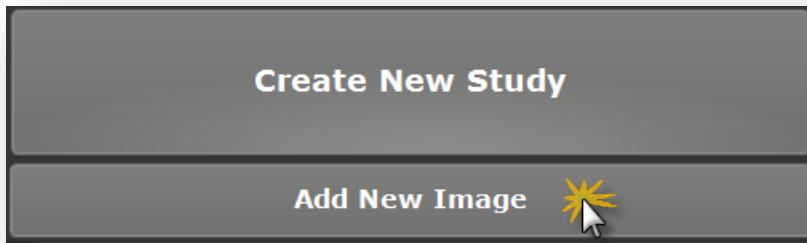

Figure 4
5. Select a *Test* study from the study list, left clicking one time. **Figure 4**